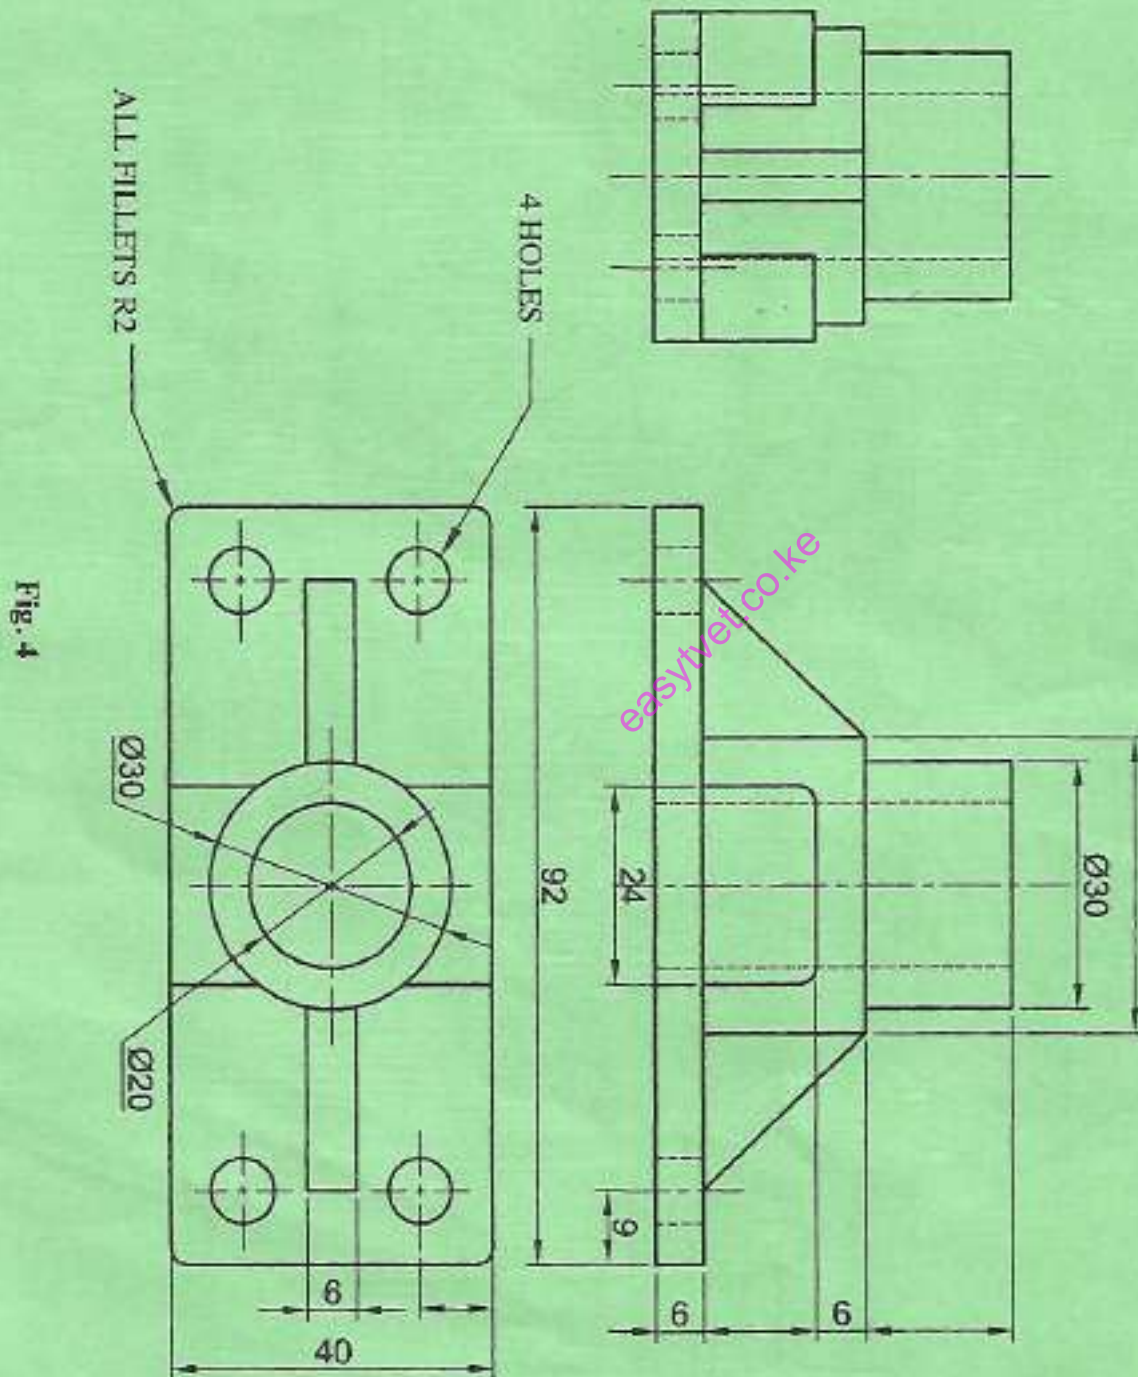

Fig. 4
5. Figure 4 shows the views of a shaft guide. Use view ports to extract the following views in conceptual visual style. (Approximate the dimensions that are not indicated)